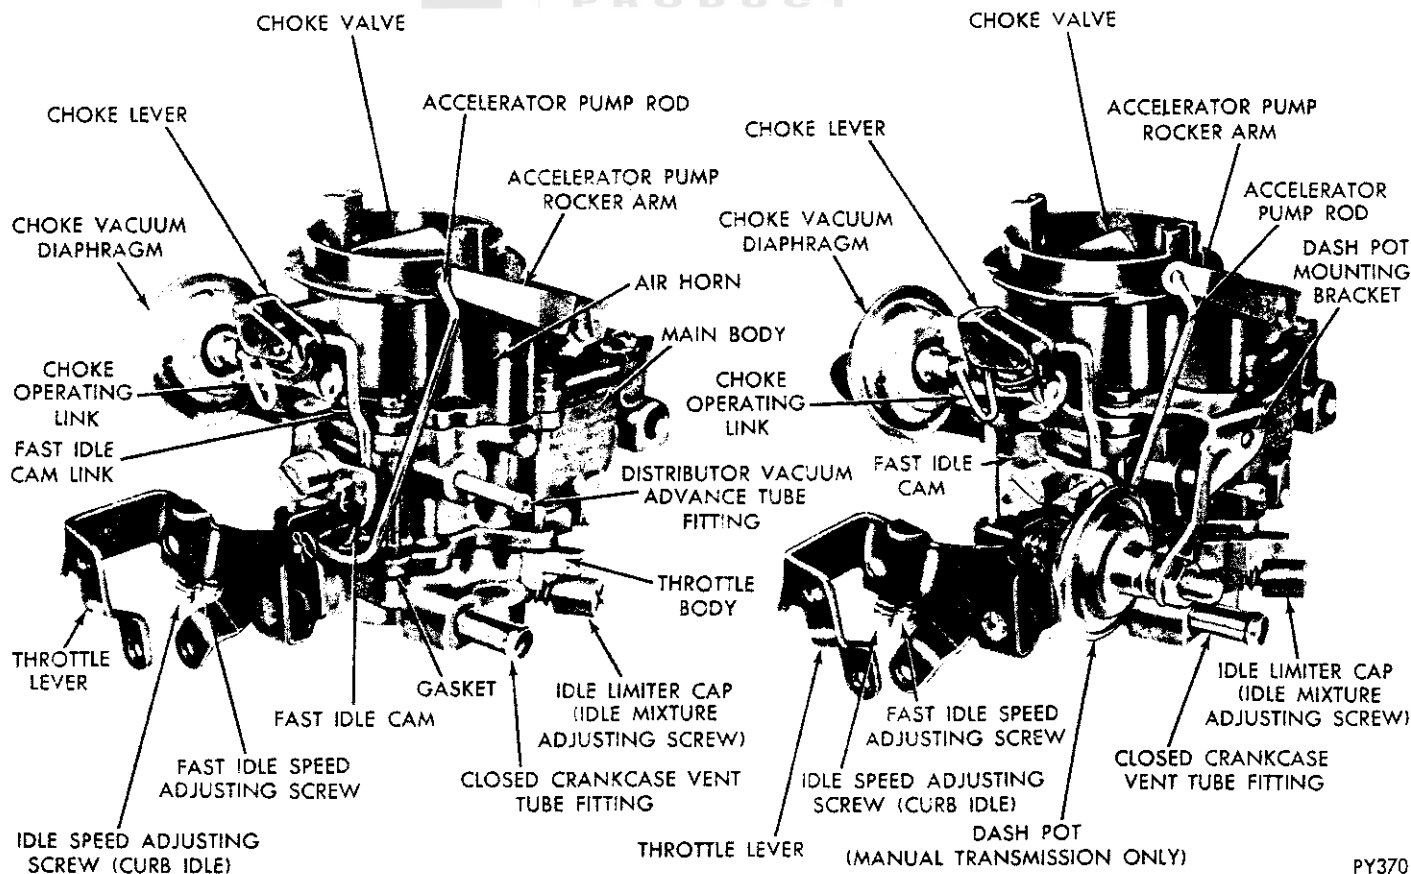

Fig. 1—Carburetor Assembly (Ball and Ball) C.A.S.
The Ball and Ball single throat carburetor models C.A.S. (Cleaner Air System) BBS-4715S and BBS-4716S are used on the 198 cu. in. engines when the vehicles are equipped with manual or automatic transmissions respectively. (Fig. 1.) The BBS-4715S is equipped with a dash pot which retards the return of the throttle to idle position. (Manual Transmission Only).
DISASSEMBLING CARBURETOR (Figs. 1 or 2)
disengage link from diaphragm plunger (stem) and choke lever. (Fig. 1). Remove link.
(8) Remove bowl vent valve plunger to operating "E" clip. Remove accelerator pump rocker arm pivot screw (Fig. 1.) Push up on bottom of plunger and disengage from rocker arm. Remove rocker arm and bowl vent valve lever. Slide plunger, spring and seat out of air horn. If inspection shows plunger can be